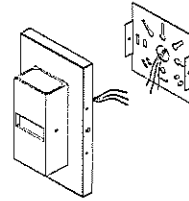

FIG. 3
- Step3: Make wiring, refer to the wiring layout FIG8 (black to line, white to neutral, and yellow / green to ground) (FIG.3)